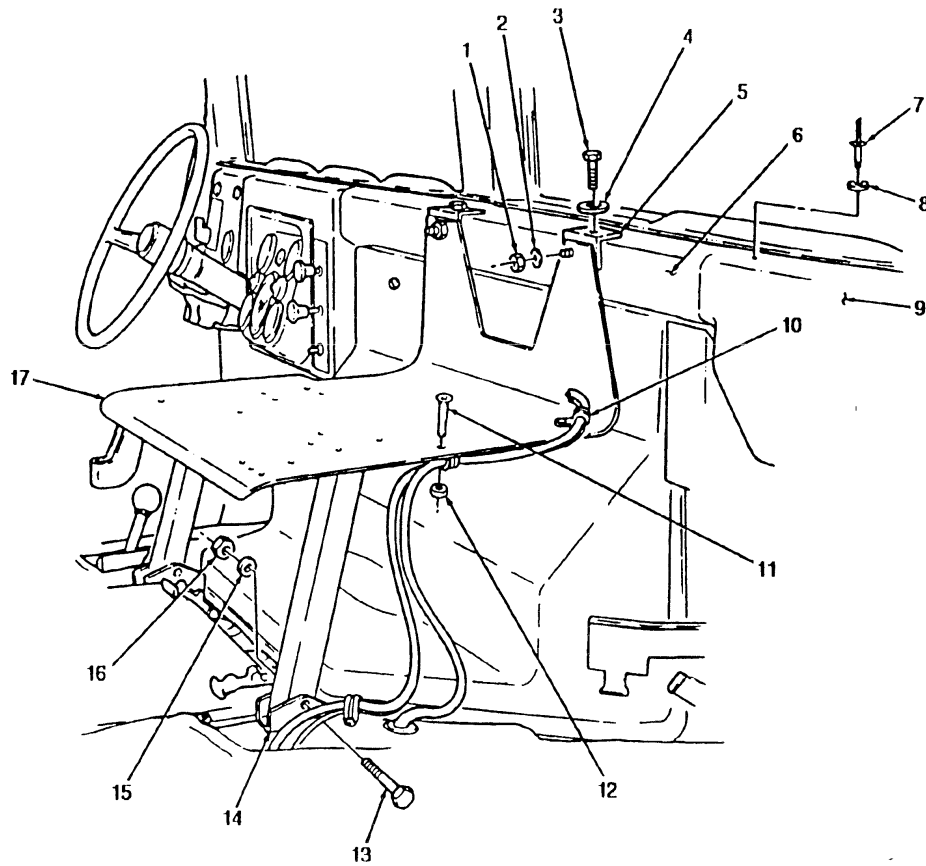

FIGURE 3-76
11. Install two NSN 5320-01-023-2529 rivets (7) and NSN 5310-01-171-8120 washers (8) in diverter box (9). (see figure 3-76)
12. Install two P/N 12446763 tipper radio rack brackets (5) on plenum panel (6) and secure with two NSN 5305-00-543-4372 screws (3) and NSN 5310-00-044-6212 washers (4).
16. Position front radio rack (17) on two radio rack mounting brackets (1 4) and secure with two existing screws (13), washers (15), and NSN 5310-00-935-9021 nuts (16). (see figure 3-76)
17. Position front radio rack (17) to tipper radio rack brackets (5) and secure with two NSN 5310-01-102-3270 washers (2) and NSN 5310-01-186-8641 nuts (1).
18. Install two "P" clamps (10) on front radio rack (17) and secure with two existing screws (11) and NSN 5310-00-814-0673 nuts (12).